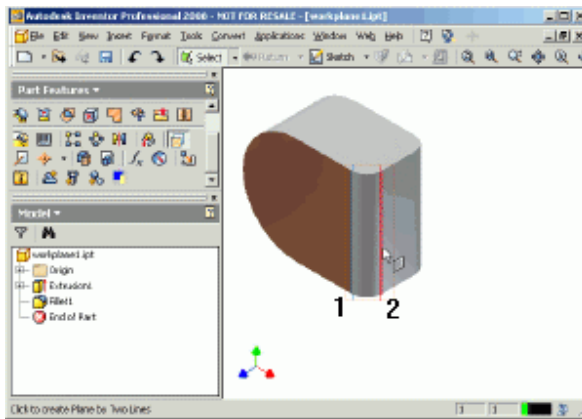

Figure 7: Select 3 vertices
1. Select the two vertical tangent edges. The workplane is now created, and should be at an angle of 45° to the front face (Figures 7, 8).